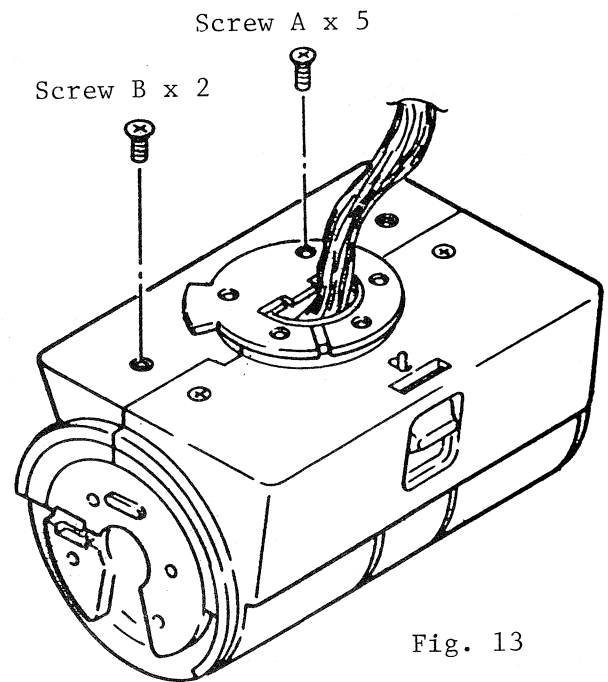

Fig. 13
7.1 Remove the five screws "A" holding the rotary joint parts. Take care with detent pins and springs. (Fig. 13).
7.2 Remove the two screws "B" and the cover can be removed (Fig. 13).